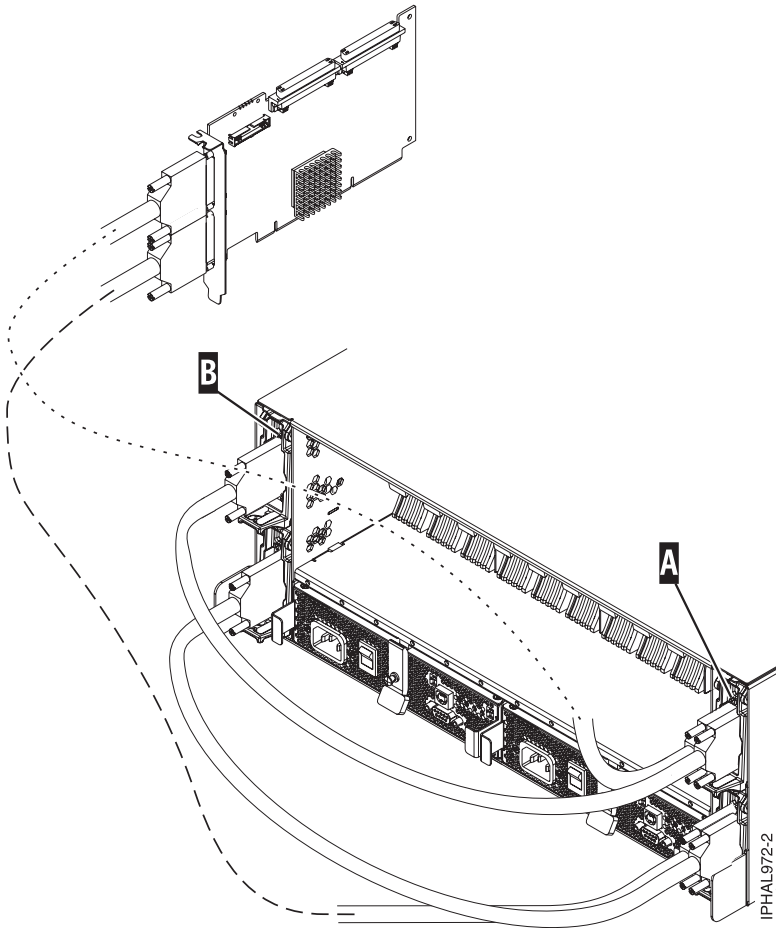

Figure 20. SCSI cable to a dual repeater card that is connected to a single repeater card
- If you are using a combination of single and dual repeater cards, connect a SCSI cable to the dual-initiator repeater card (A). Then, connect the dual repeater card (A) to the single repeater card (B) by using a different SCSI cable. For more information, see Figure 20 on page 50.